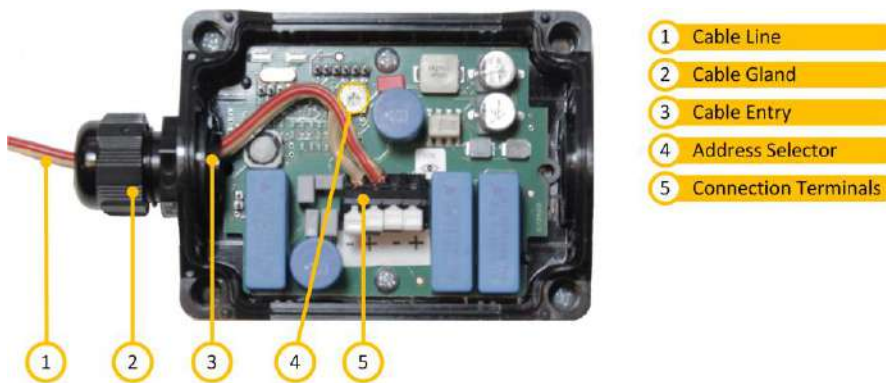

Figure 56: Terminal Connection
The address of the unit should be set before mounting as this will make the operation easier. The address is set using the address selector shown in Figure 56.
2. Connect the loudspeaker line to either of the two spring loaded connection terminals as shown in Figure 56.